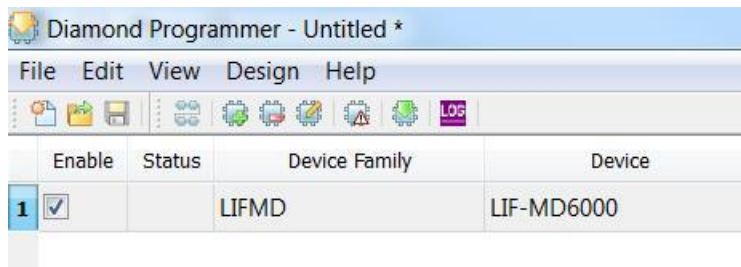

Figure 4.5. Device Selection
3. In the Diamond Programmer main interface, select **LIFMD** in Device Family and **LIF-MD6000** in Device as shown in Figure 4.5.